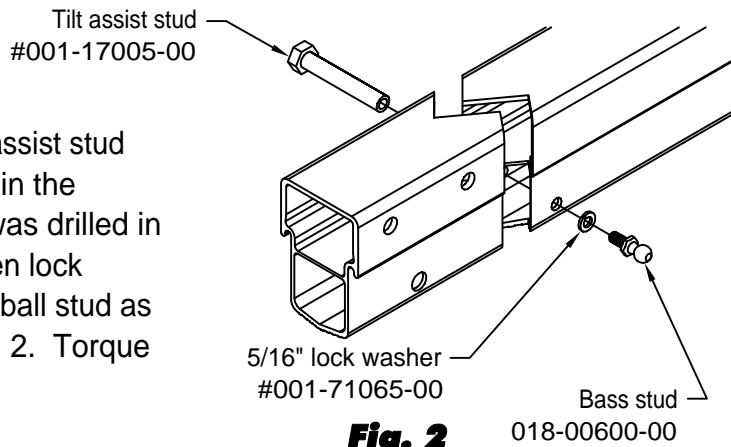

Fig. 2
2. Insert the tilt assist stud thru the hole in the tongue that was drilled in step 1. Fasten lock washers and ball stud as shown in Fig. 2. Torque to 25 ft/lbs.